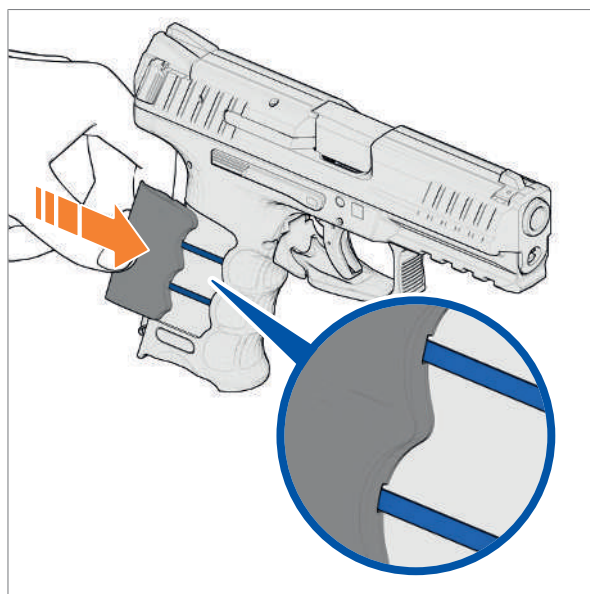

Fig. 27: Slide grip shells into guides
1. Slide grip shells into the plastic guides of the frame from rear to front (Fig. 27).